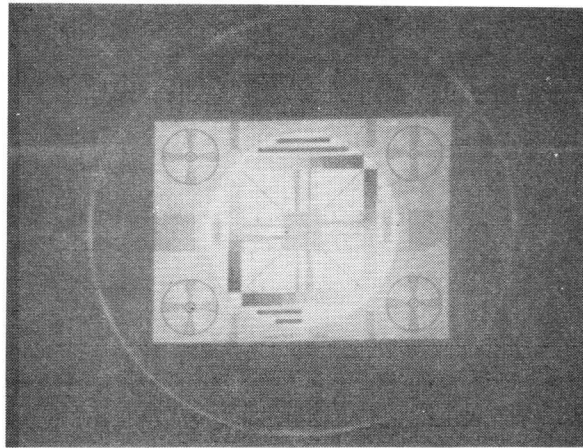

Fig. 12 Positioning the Raster Size by Test Pattern (RETMA Pattern).
12. Adjust the test pattern so that its corner has a position slightly inside the outer boundary of photoconductive area, as shown in Fig. 12. The area of test pattern image is recommended to be equal to the standard scanning size ($12.7 \times 9.5 \text{ mm}^2$ for E5001 and $8.8 \times 6.6 \text{ mm}^2$ for E5022). The procedures 11 and 12 are accomplished alternatively until the best picture is obtained.